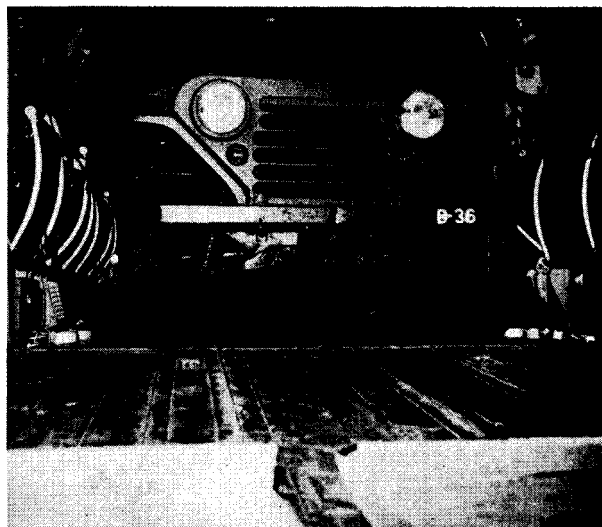

Figure 1. M151 1/4-ton truck positioned and tied down. (Tiedowns have not yet been affixed to front lifting shackles.) View looking forward in helicopter.
- (3) Attach small clevis assembly to each axle hub of M151 1/4-ton trucks.
- (4) Position guides in helicopter and at left front of truck to observe clearances and to signal drivers as necessary.
- (5) Back first truck into helicopter to tie-down position; place transmission in gear and set brakes.
- (6) Back truck with trailer into helicopter to tiedown position and keep coupled; place transmission in gear and set brakes on truck and trailer.
- (7) Tie down vehicles in accordance with figures 1, 2, 3 and the tiedown data table. Twenty CGU-1/B tiedown devices are required.
- (8) Four men can prepare, load, and tie down the vehicles in approximately 30 minutes.